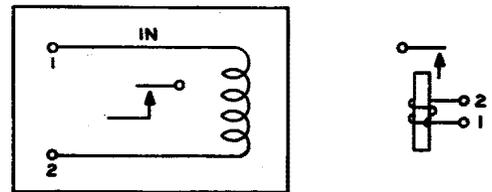

Fig. 55 – Winding Terminal Numbering — 281-Type Relay
2.68 Replacements for D-178265 and D-178266 Relays: The winding terminals are numbered 1 and 2 and are designated on the terminal spoolhead as shown in Fig. 55. The relay contact spring leads, one at each end of the relay, are not designated.